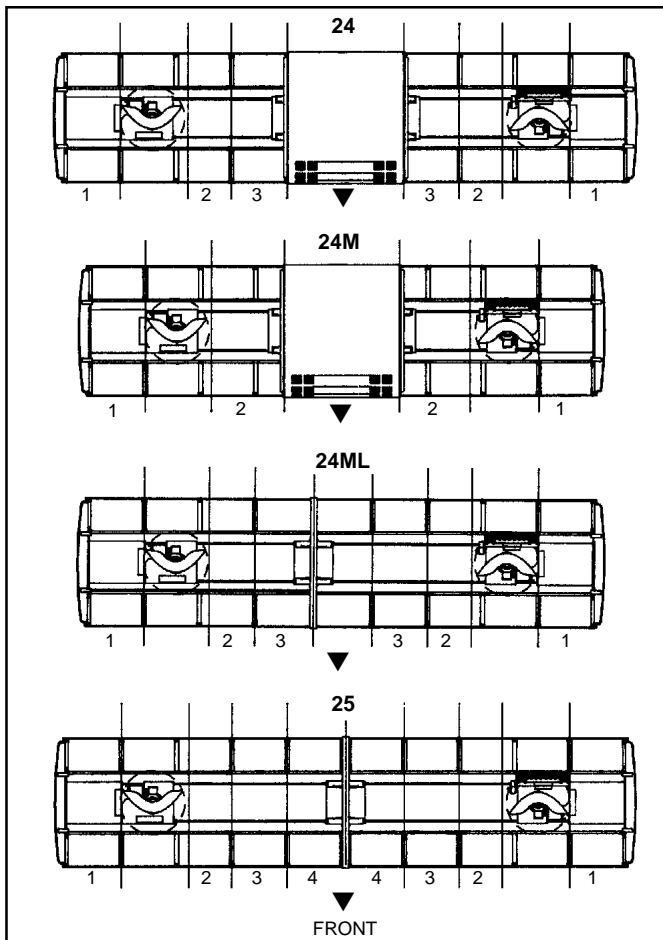

Figure 1.
1. Select the mounting location for the Model 25FK (see figure 1).